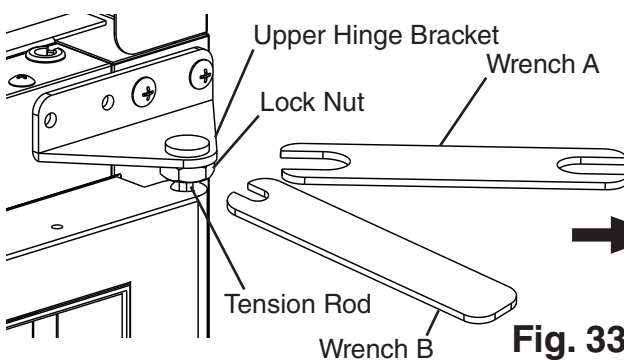

Fig. 33
- 4) Turn wrench B counter-clockwise to relieve tension on the tension rod. Without releasing the pressure on wrench B and the tension rod, use wrench A to tighten the lock nut. See Fig. 33.